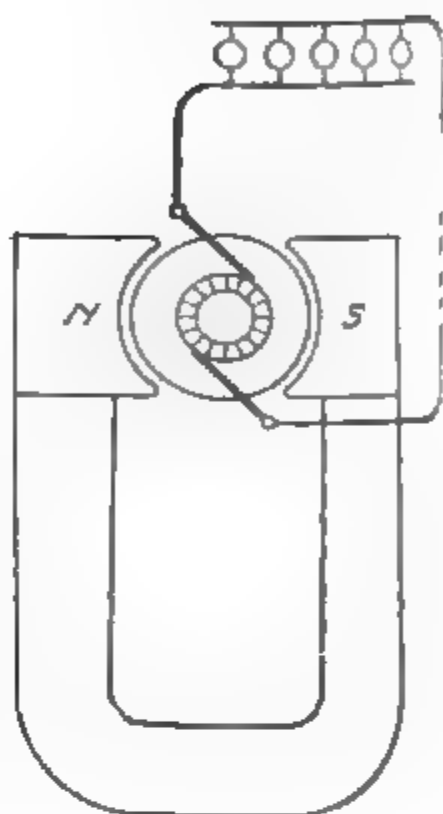

Fig. 26. Diagram of Magneto
*Permanent Field Used in Magneto.* The simplest of these and the first to be designed, employed permanent magnets, from which such a generator takes its name, *magneto*. Fig. 26 is a diagrammatic representation of an early form of the magneto-generator. Since magnetism cannot be maintained permanently at the high flux-density or strength which can be produced by an exciting coil fed by a current, this method is only employed in very small generators, as its bulk for large powers would be excessive. Its great advantage is its simplicity and constancy. The magneto-generator shown in Fig. 26, however, is designed to produce a continuous current, and is not the type in general use on the automobile today.